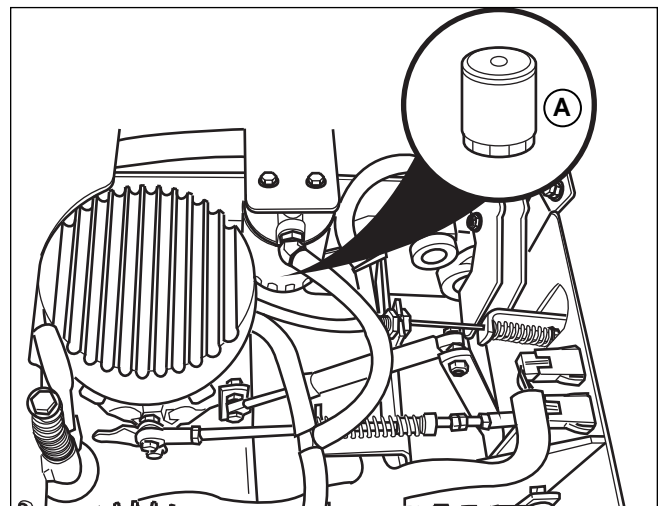

Figure 17. Change Hydraulic Oil Filter
1. Locate the transmission oil filter (A, Figure 17).